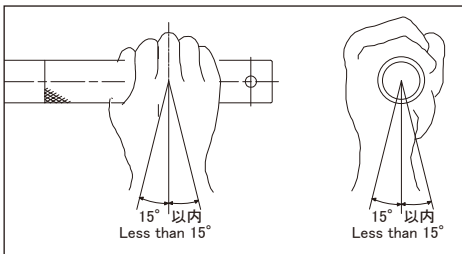

図5 Fig.5
上下左右とも±15° 以内にする。(図5)
- The loading direction must be at a right angle to the torque wrench. The tolerance is plus/minus 15 degrees of horizontal or vertical deviation. See fig. 5.